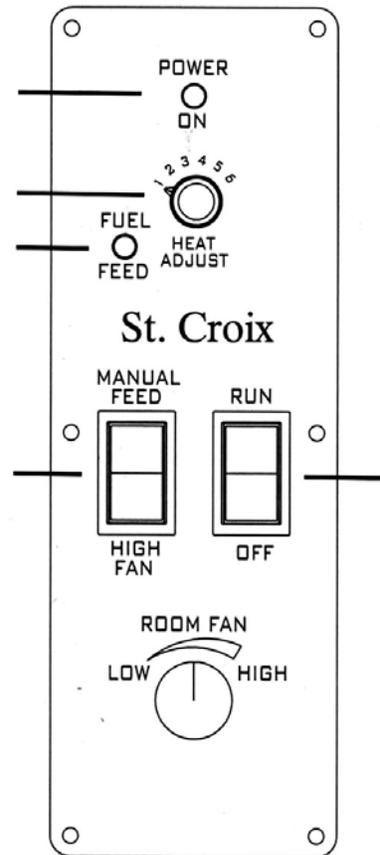

Figure 1. Control Box
**Lighting Your Stove using the igniter** (Refer Figure 1)
(Refer Fig. 1)
### Shutting The Stove Off (Refer Figure 1)